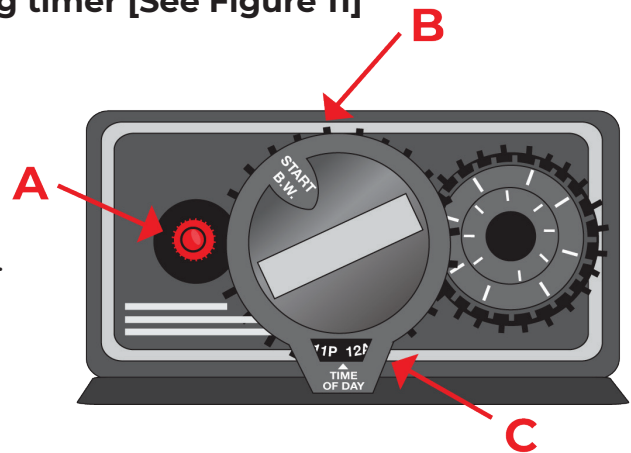

Figure 11 - Filter BACKWASH position
2. Lift off the valve cover on the filter unit and turn the control knob on your left (as you face the tank) **CLOCKWISE** to the **BACKWASH** position (notch roughly to the 12 o'clock position) [See Page 17, Figure 11].
To reset the weekly automatic self-cleaning timer [See Figure 11]